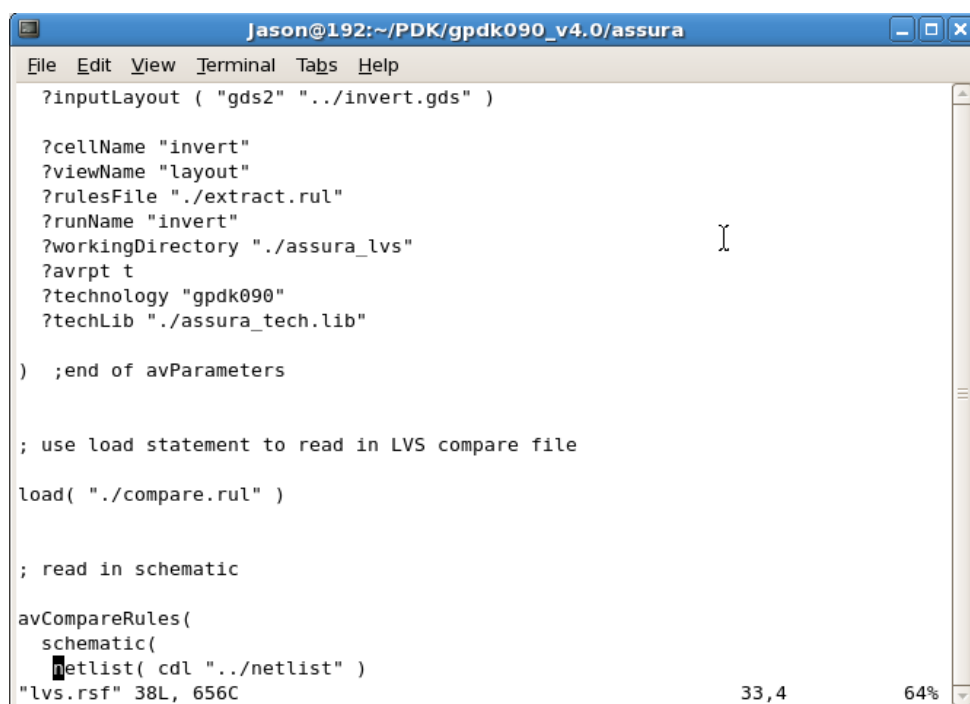

Fig. 29
1. Edit Assura LVS RSF file to specify the necessary information (Fig 29).